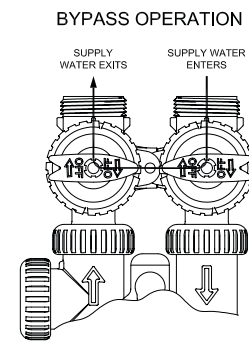

figure 2
**2. Bypass Position:** The inlet and outlet handles point to the center of the bypass. The control valve is isolated from the water pressure contained in the building plumbing system. Untreated water is supplied to the building plumbing system. (see figure 2)
As noted on page 3 General Installation Instructions, allow lighter weight mineral such as Carbon and Filter Ag to soak in water prior to start-up; recommend minimum 12 hours up to 24 hours for best results. Do not plug the transformer into the receptacle yet. Rotate the bypass handles to the **BYPASS** position (see figure 2 on page 4). Turn on main water supply. Open a cold water faucet. This will clear the line of any debris that may be in the line. Let water run at faucet for a couple minutes, or until clear. Turn off faucet. Now plug the transformer into a 120 volt receptacle (be certain the receptacle is uninterrupted). Within 5 seconds the control display and buttons will illuminate and the time of day screen will appear.